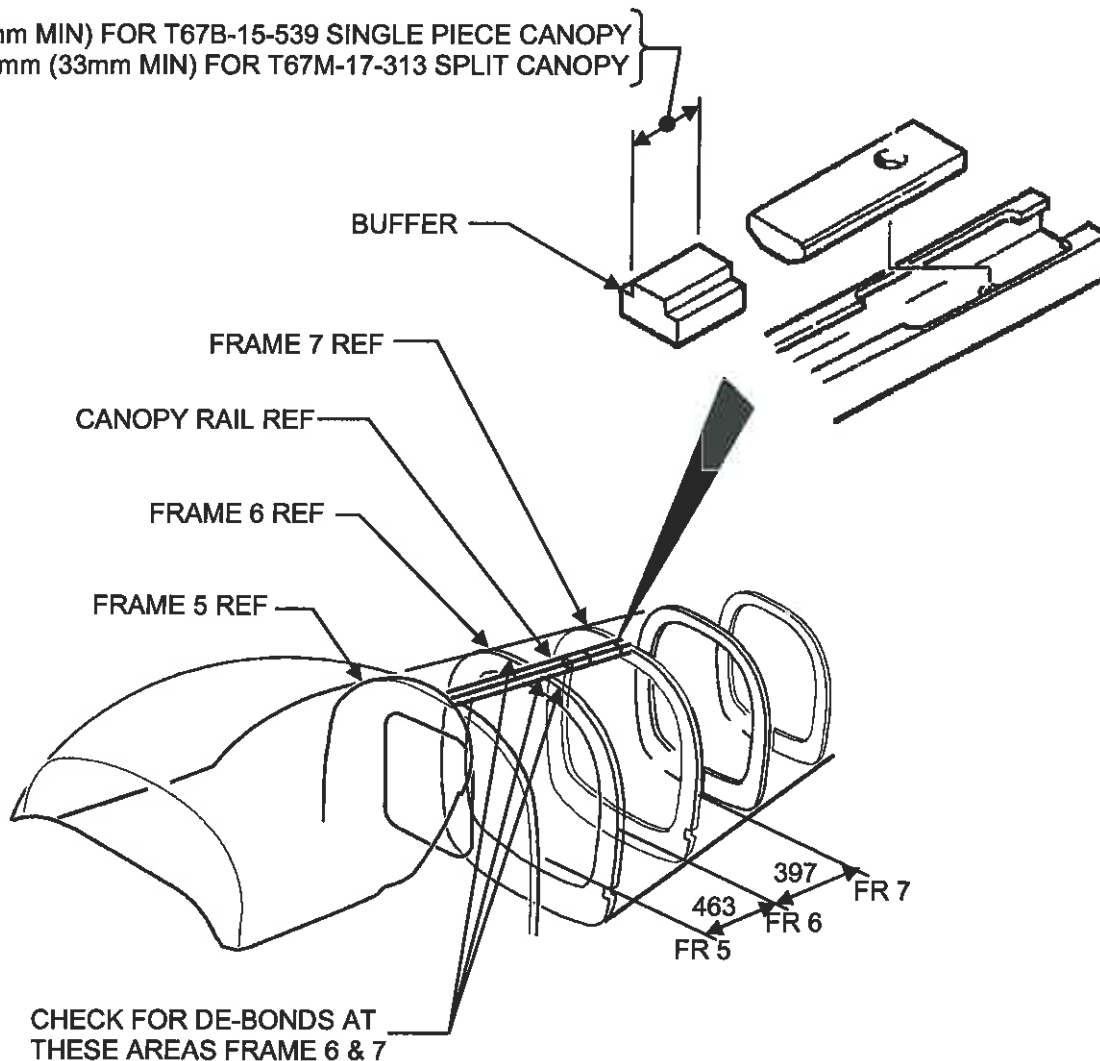

FIGURE 1
- 1 Check canopy slide rail for canopy buffer, reference Figure 1. Check length of buffer, for single piece canopies length should be 50mm and for split canopy length should be 35mm +1/-0mm. If buffer is missing or lengths measure less than 2mm than stated at Figure 1, then replace with T67B-15-539 for single piece canopy; or T67M-17-313 (issue 3 & subs.) for split canopy.